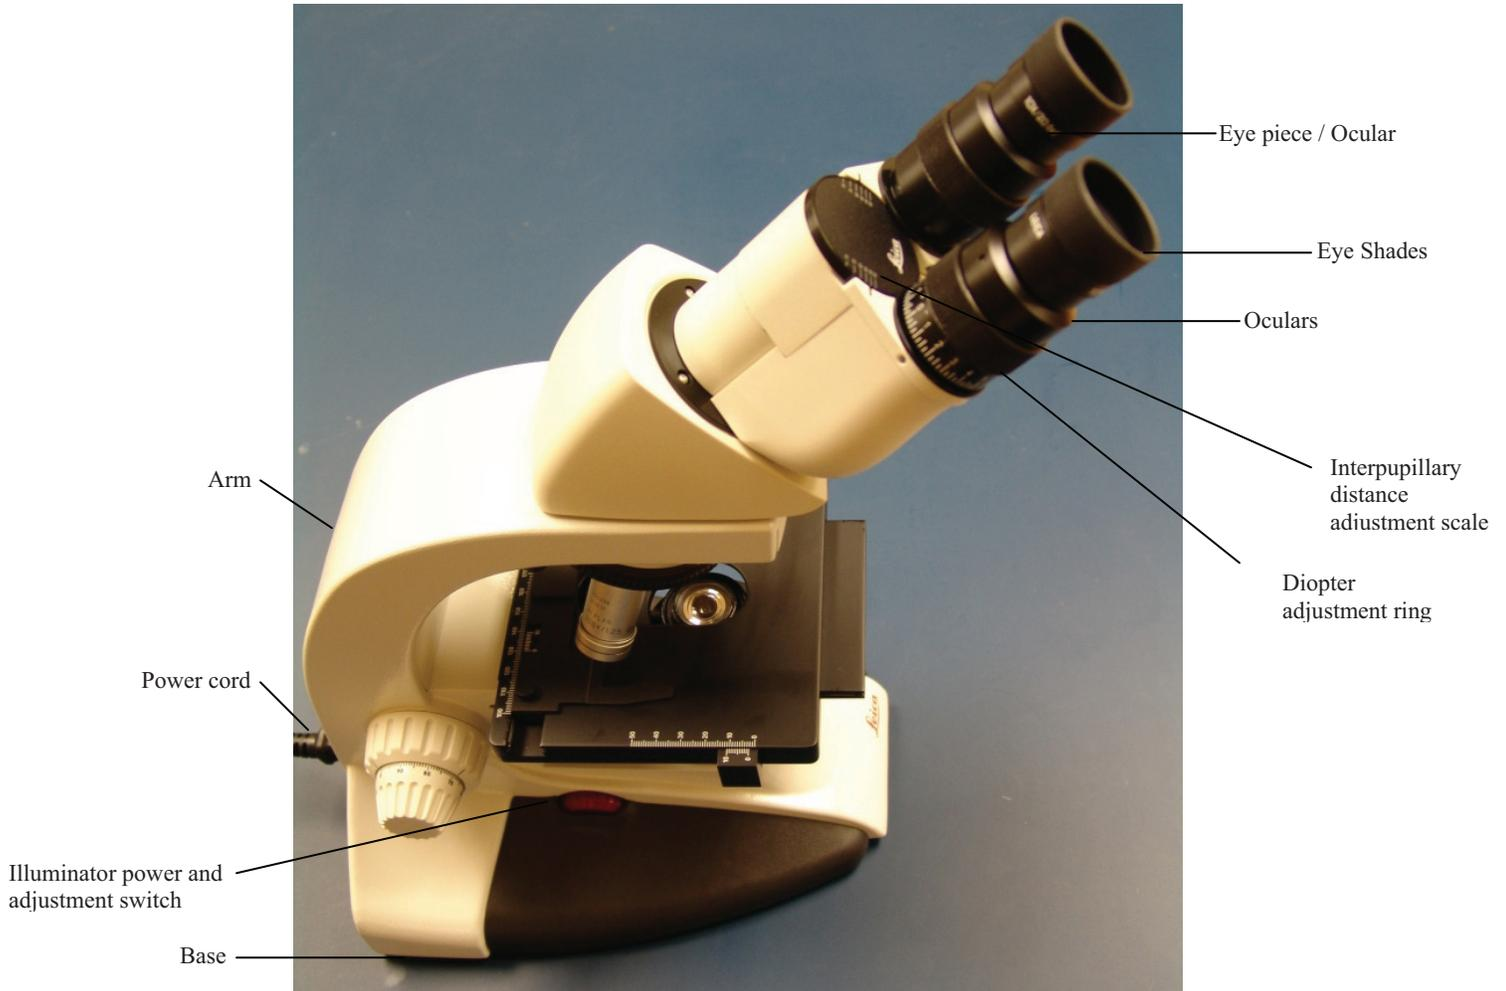

Figure 1: Leica DME microscope left side component view
- 9.1. Figure 1: Leica DME microscope left side component view